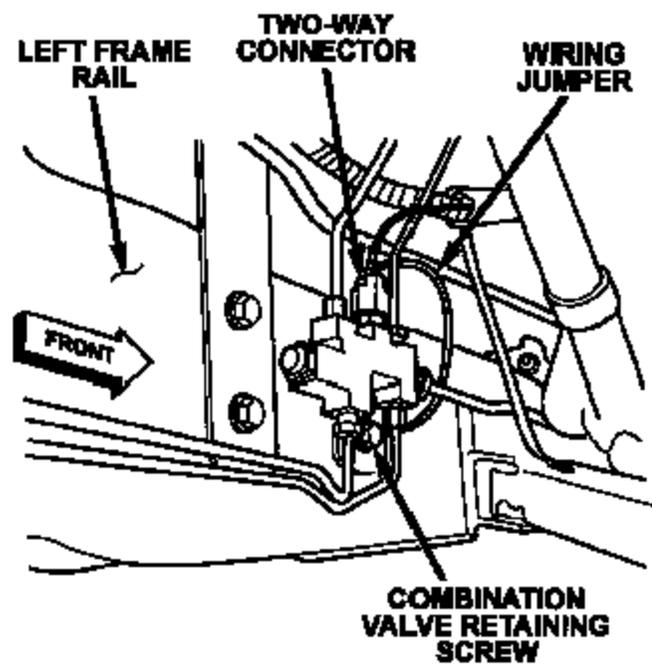

Figure 3
- Route the wiring jumper from the two-way connector behind the brake tubes to the combination valve retaining screw (Figure 3).